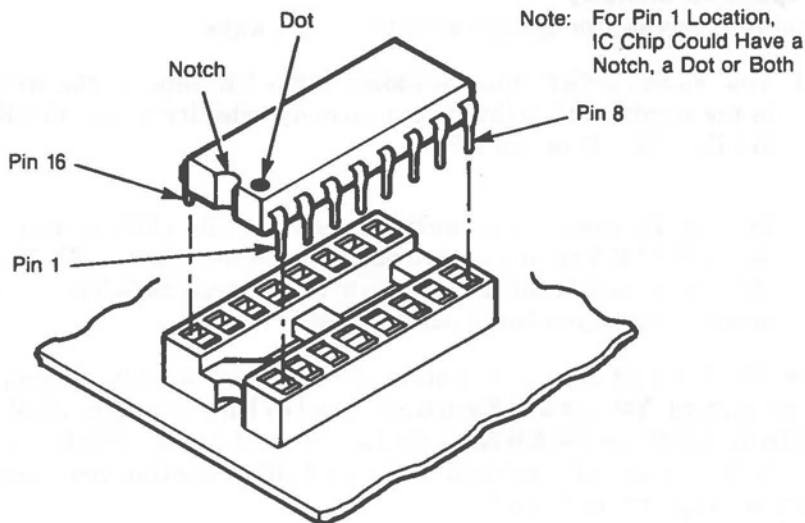
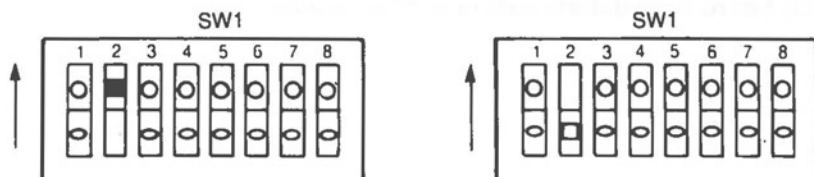

Figure 3-19 Chip Orientation
Figure 3-24 MPB SW1 Switch Settings
Refer to the cabinet disassembly section in the front of this chapter for instructions to remove the card rack assembly. Then follow the instructions given in the expanded memory section of this chapter to install the chips in the board (see Figure 3-19).
1. Orient the pins correctly, make sure that pin 1 of the new chip is oriented the same as those already installed (see Figure 3-19).
The Numeric Coprocessor can be installed to the MPB to enhance the arithmetic capabilities of your system. Follow the instructions given in the memory expansion section of this chapter to install the chip (refer to Figure 3-19). Refer to Figure 3-25 for chip location. You need to change the switches for MPB SW1 switch block (see Figure 3-24).